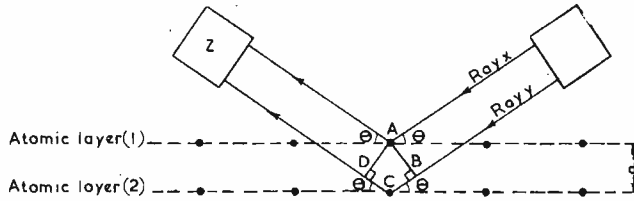

Fig. 6. Illustration of Bragg's law
and is illustrated in Fig. 6. Here we have two parallel layers of atoms a distance d apart, onto which two x-rays x and y are projected at angle θ , the two rays being exactly in phase at the wave front AB. At this point ray x is reflected from A in layer (1), while ray y continues to C
It will be clear from Fig. 6 that the angle between the